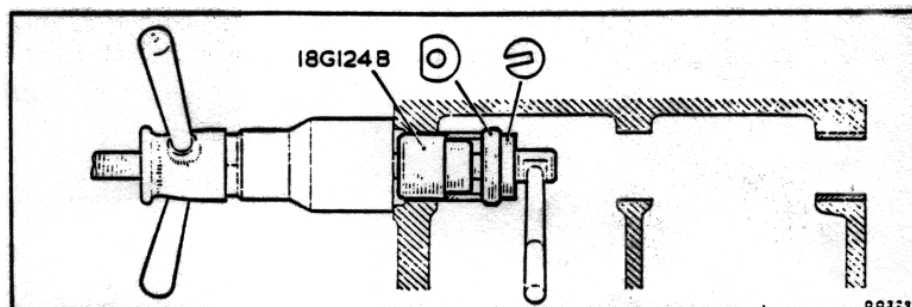

Fig. 5
5. Fit a new rear bearing liner, lining up the oil holes and using the tools shown in Fig. 5.